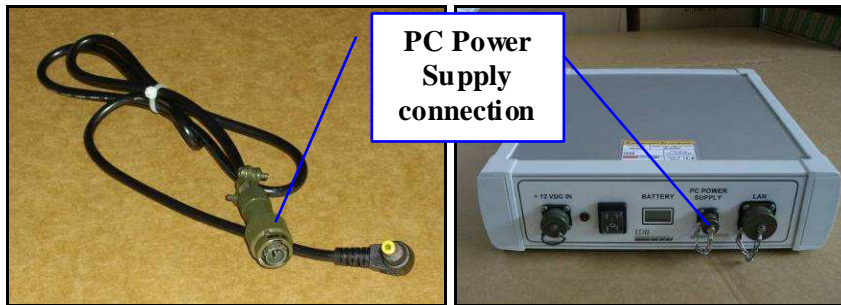

Fig. 2-14 – Power supply cable and connection to the Control Unit
- **SRS_PLUS only:** Then connect the power supply cable to the PC POWER SUPPLY port on the Control Unit and to the Notebook PC (see Fig. 2-14).